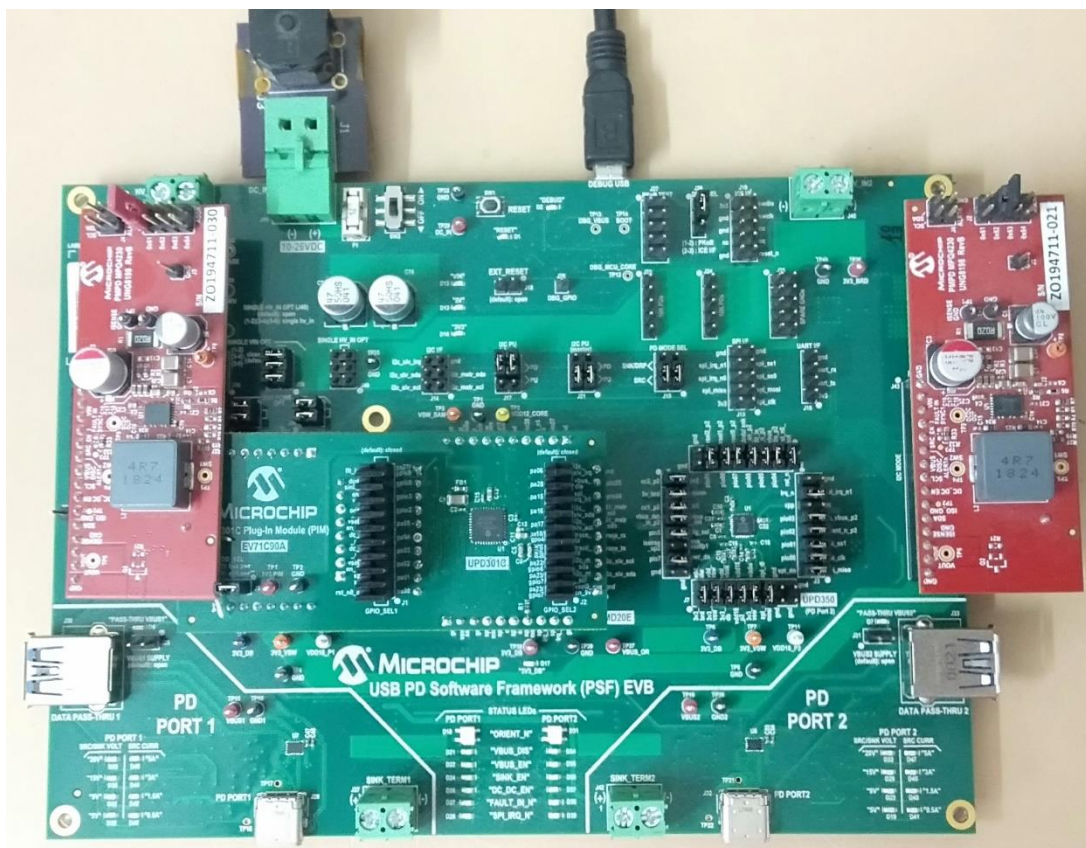

Figure 5.2 PM-PD Orientation
2. Connect PM-PD cards to J34 and J43 of the EVB-PSF in correct orientation as shown in Figure 5.2